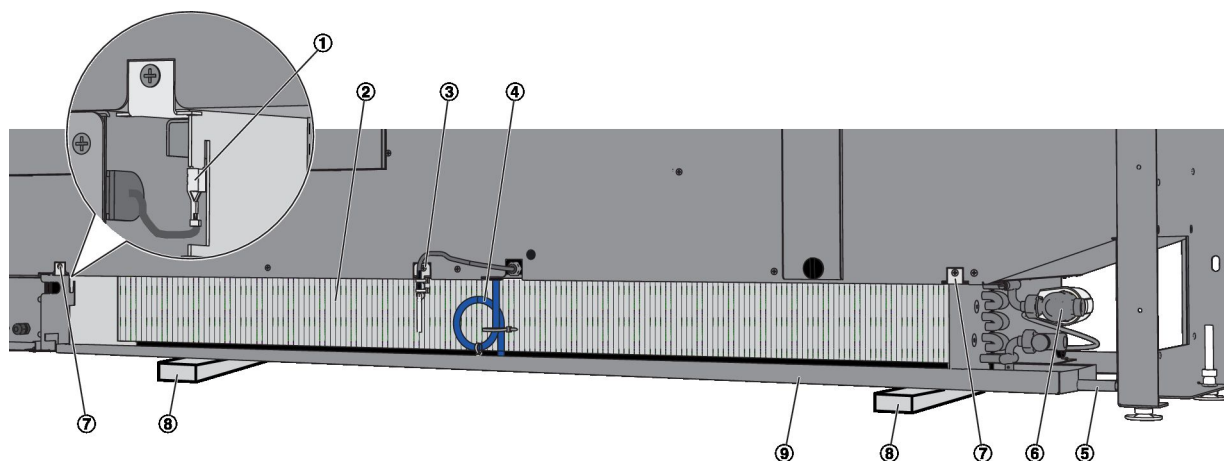

Fig. 33: Removing the heat exchanger
- ▶ Remove the protective earth conductor (Fig. 33/1) from the heat exchanger (Fig. 33/2).
- ▶ Remove the holder for the supply air temperature sensor (Fig. 33/3).
Loosen the condensate tube (Fig. 33/4) from the condensate drip tray by removing the cable ties (Fig. 33/9).
- ▶ Depressurise the water-side connections (Fig. 33/6) and disconnect the pipes from the heat exchanger. Detach the condensate pipe (by others) from the condensate drain (Fig. 33/5).
7. ▶ To prevent the heat exchanger and the condensate drip tray (Fig. 33/9) from crashing onto the floor, support them, e.g. with two blocks of wood.(Fig. 33/8).
Loosen the two Phillips screws of the heat exchanger fixing brackets (Fig. 33/7), then carefully lower the heat exchanger with the condensate drip tray. Pull the heat exchanger and the condensate drip tray towards you and out of the casing.
- Clean the condensate drip tray (Fig. 33/9) with a commercially available cleaner or disinfectant.
- Check that the condensate drain (Fig. 33/5) (optional) is not blocked.